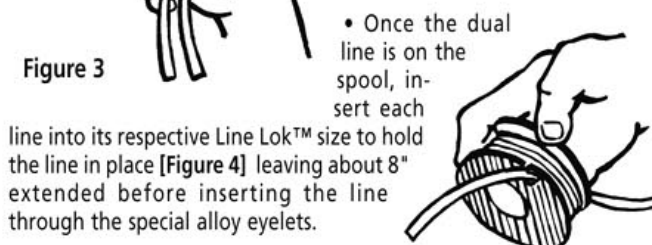

Figure 4
- Once the dual line is on the spool, insert each line into its respective Line Lok™ size to hold the line in place [Figure 4] leaving about 8" extended before inserting the line through the special alloy eyelets.